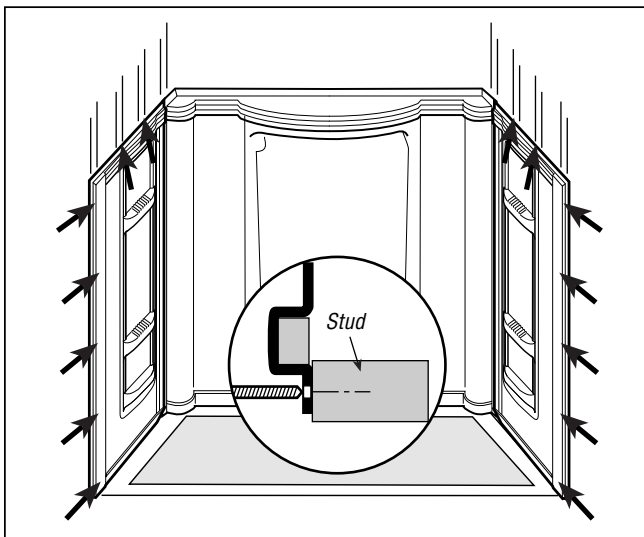

Figure 5
- 6** Apply a bead of adhesive down each stud that will come in contact with the side panels. Install each side panel by laying a bead of latex/acrylic caulk along flange with holes (i.e., the flange that connects to back panel). Slide panel over fasteners. Press each panel firmly to ensure proper adhesion to studs. Locate and drill a 3/16" hole in the center of the nailing flange at the top of the panel and centered on each stud. Also drill 3/16" holes in the front nailing flange on each side panel at approx. 12" intervals, centered on the flange (*Figure 5*). Hammer 3/4" galvanized roofing nails through each hole and into the studs, securing the wall panel.